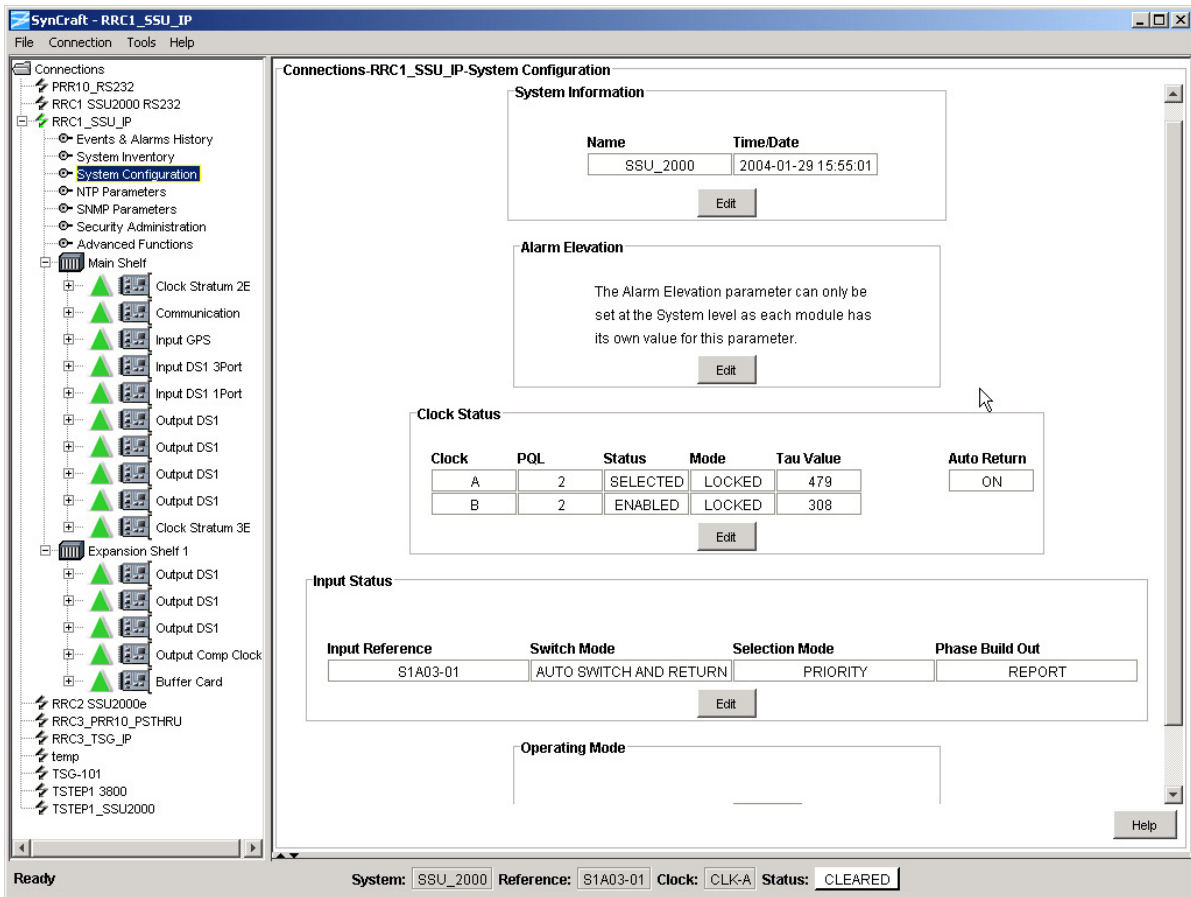

Figure H-10. System Configuration Screen
7. Select the System Configuration screen in the menu. A display similar to that in Figure H-10 appears.